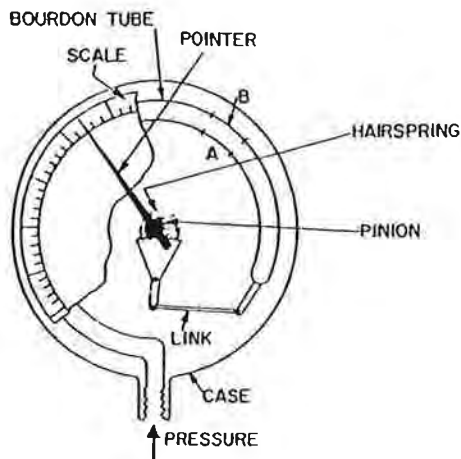

Fig. 10-1. Bourdon-tube gage.
10.06 Many pressure gages use a coiled tube called a BOURDON TUBE as the flexible element. See Fig. 10-1. Under pressure the fluid fills the tube. Note that one end of the tube is attached to